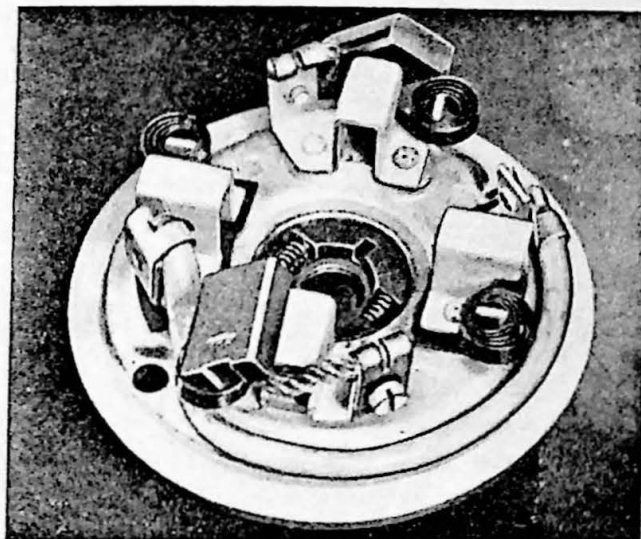
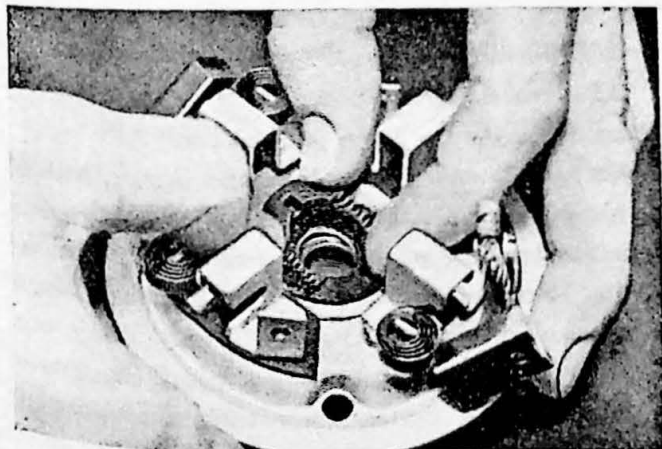

Fig. 10-26. End head
Fig. 10-25. Fitting the rotor brake
1. Fit the rotor brake in the rear end head, see Fig. 10-25, and the lead between the positive brushes as shown in Fig. 10-26.